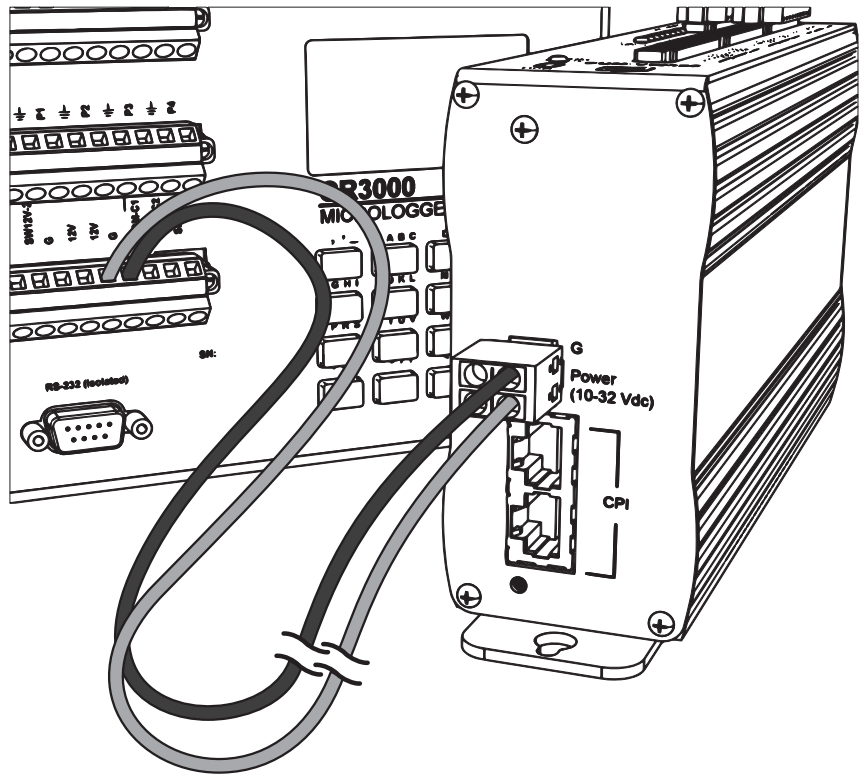

FIGURE 6-12. Power connection
7. As shown in FIGURE 6-12, connect power leads to the CDM-VW300. Do not turn power on until the system is fully assembled.